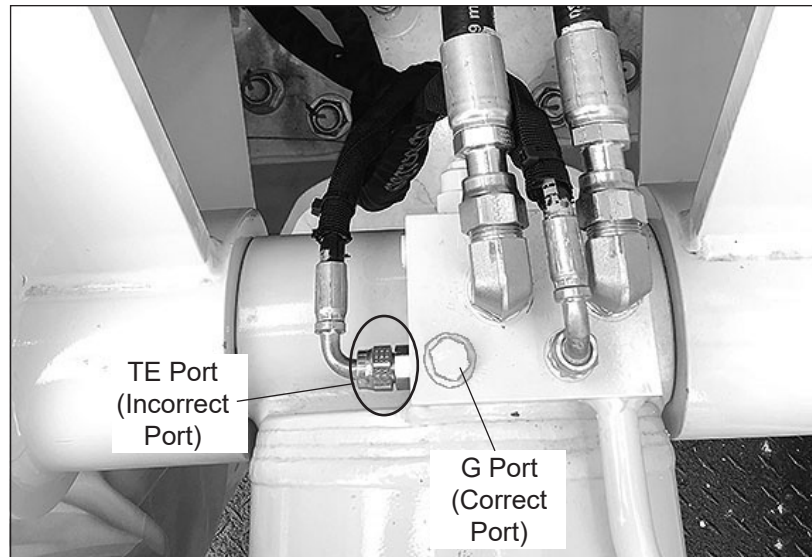

Figure 4 — Incorrect Hose Connection
5. If there is a hose connected to the TE Port on the side of the cylinder instead of the top of the cylinder (refer to Figure 4), the connection is not connected correctly. 6. If the hose is connected to the TE Port, the hose must be inspected before the unit can be used again.